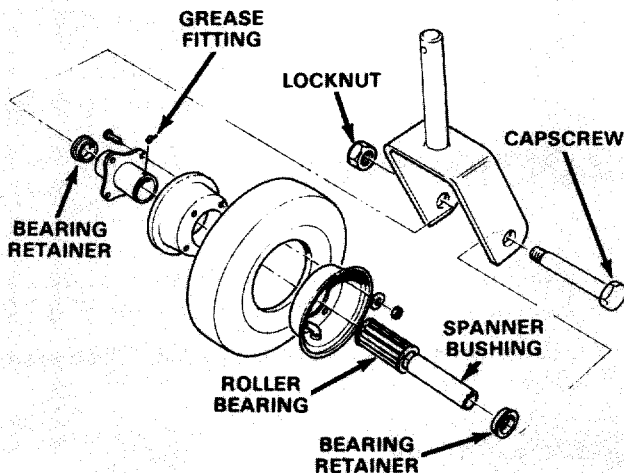

Figure 11
1. Remove locknut from capscrew holding castor wheel assembly between castor fork (Fig. 11). Grasp castor wheel and slide capscrew out of fork.
**Note:** Account for the two bearing retainers (Fig. 11).
2. Tip wheel to the side and allow roller bearing and spanner bushing to fall out (Fig. 11).
6. Pump more grease through grease fitting on wheel (Fig. 11) until bearing is greased thoroughly.